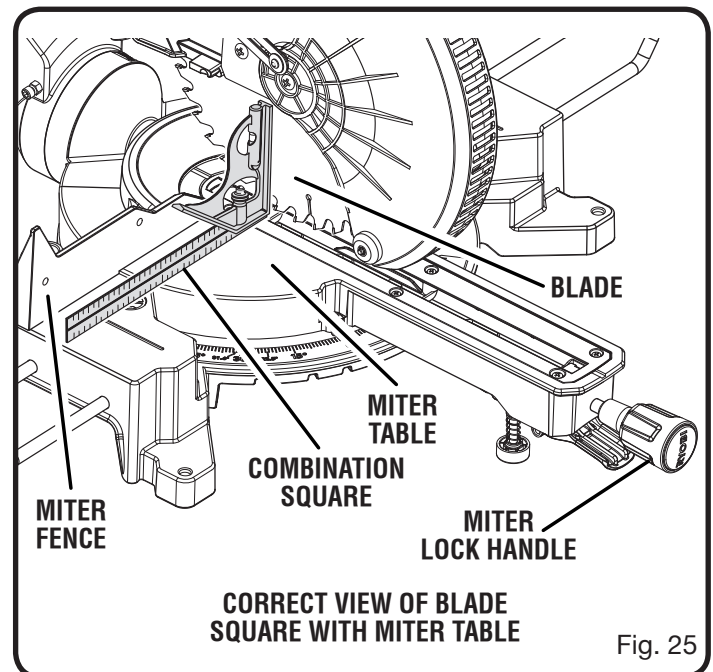

Fig. 25
See Figures 25 - 27.
- The edge of the square and the saw blade should be parallel as shown in figure 25.